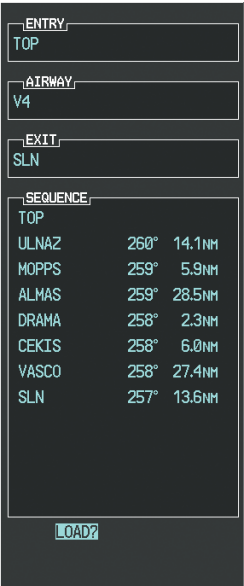

Figure 5-118 Ready to Load V4
- j) Press the **ENT** Key. The selected airway and exit are displayed, and the prompt "LOAD?" highlighted as in Figure 5-118.